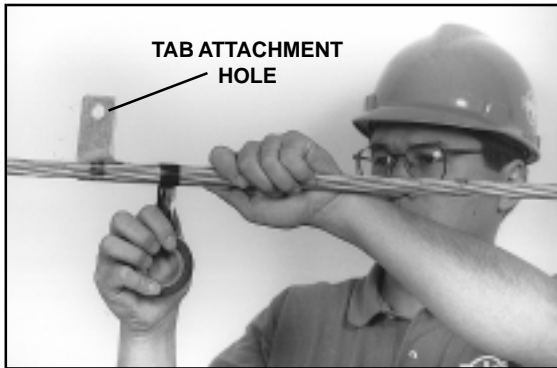

FIGURE 4 - POSITION CURRENT TRANSFER TAB AND APPLY TAPE
4.04 Position the L-shaped Current Transfer Tab against the mark on the cable centered at the tab attachment hole with the cable leg of the tab directed away from the structure. Apply a single layer of tape to hold the Current Transfer Tab in place. (Figure 4)